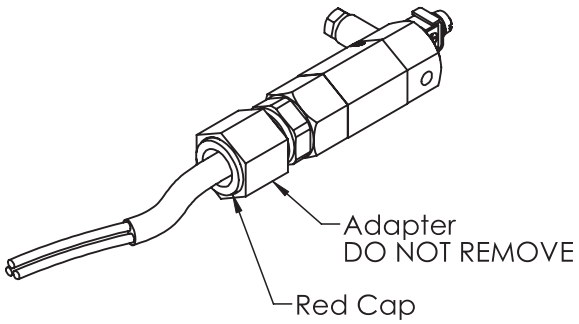

Figure 3
**CAUTION!** Remove the RED protection cap only for ½ NPT conduit installation. Never remove the adapter. See Figure 3 on page 6